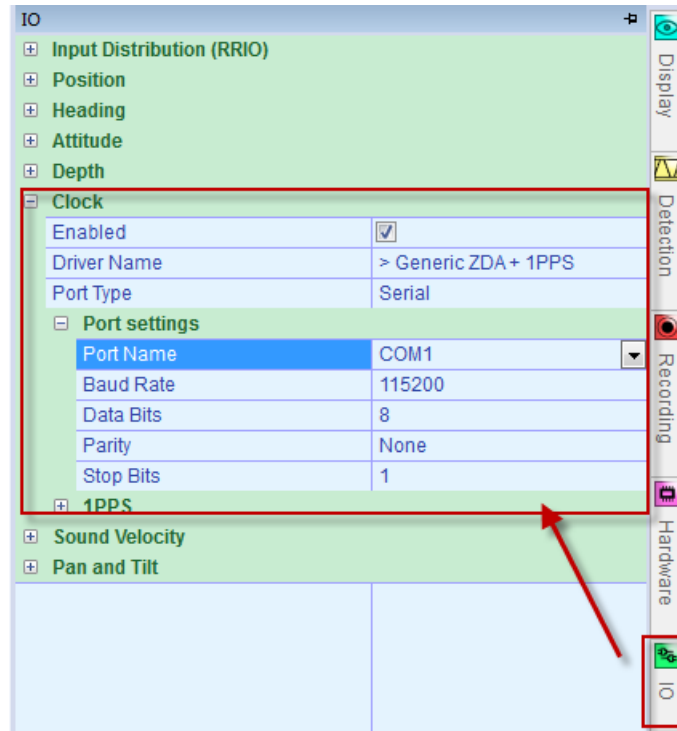

Figure 3-3 I/O pane serial clock setting
3. Open the SUI I/O pane and select the correct format with the correct communication settings as received from the POS MV. For the POS MV normally a NMEA ZDA message is used. COM1 is the time port. See Figure 3-3.